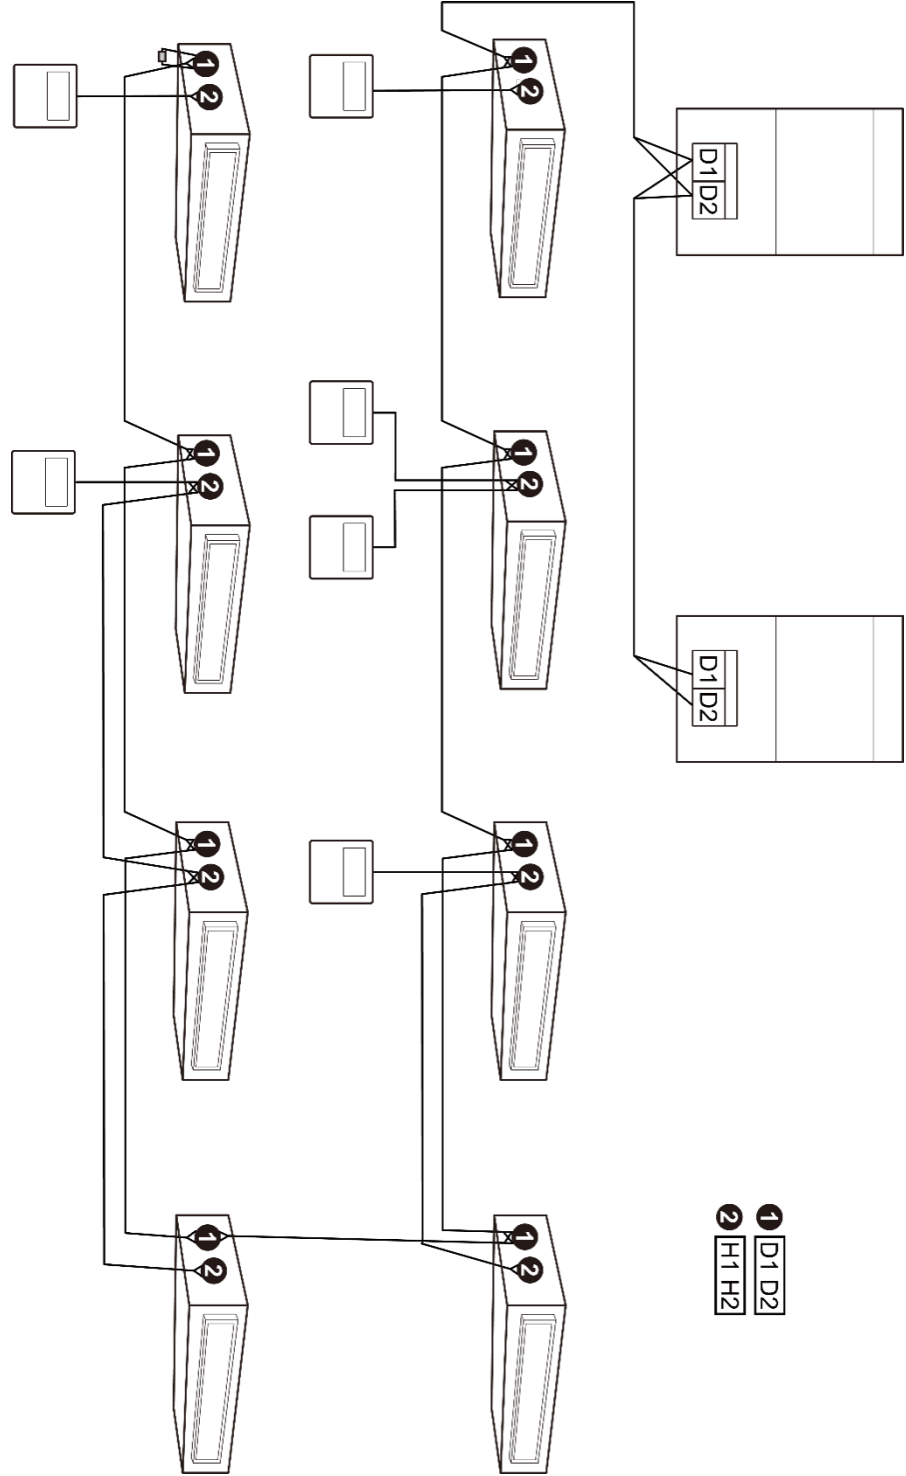

Fig.5.5
- (1) Communication wire of indoor unit and outdoor unit (or indoor unit) is connected to D1, D2.
- (2) Wired controller is connected to H1, H2.
- (3) One indoor unit can connect two wired controllers that must be set as master one and slave one.
- (4) One wired controller can control 16 indoor units in maximum at the same time. (As shown in Fig.5.5).